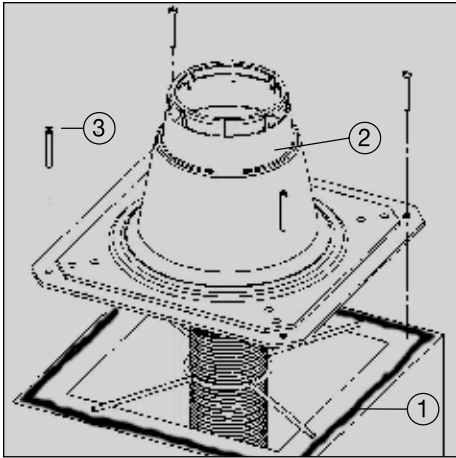

Figure 12, Installing Vent Cap
17. Seal the edge of the chimney shaft with water-resistant sealant (see 1, **Figure 12**) and push the vent cap (see 2, **Figure 12**) on the shaft and fix it with four screws (see 3, **Figure 12**).